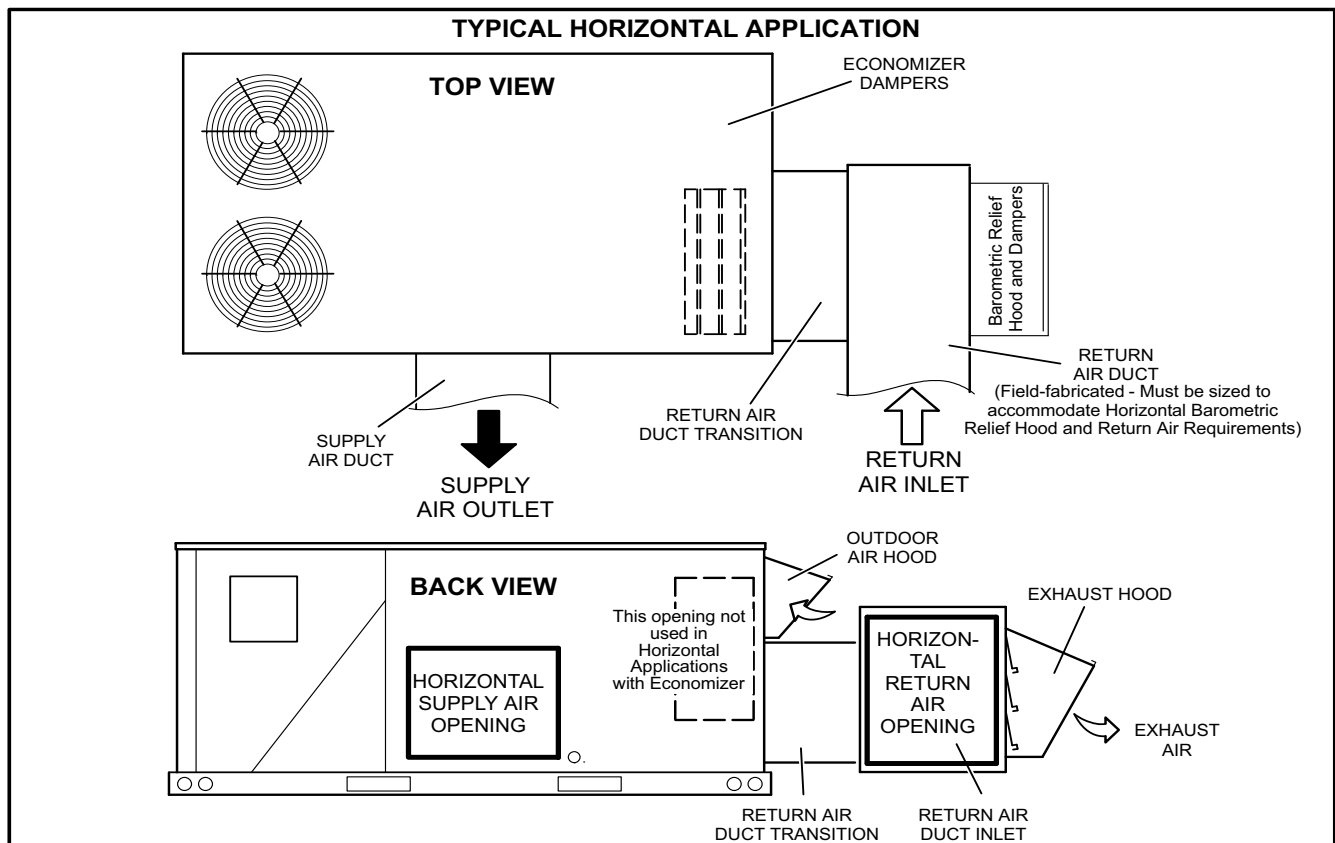

FIGURE 32
- 5- Install the field-fabricated return air duct transition and duct inlet on the unit end. See figure 32. Support the transition and duct inlet as needed.